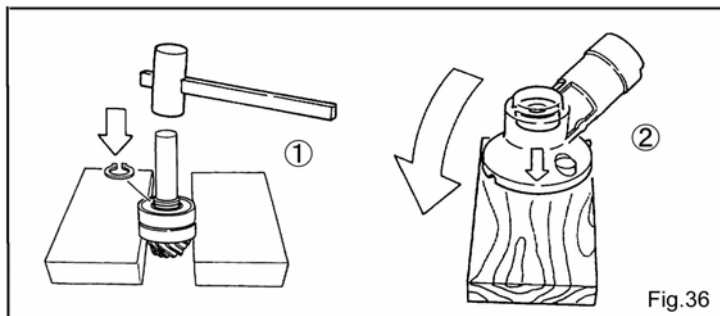

Fig.36
① Fig.36
- 8) If bearing where it is installed in the bottom of gear case needs to be replaced, heat the bottom of gear case up to 100 degrees to 150 degrees and then tap gear case to wooden base so that bearing will come off. ② Fig.36